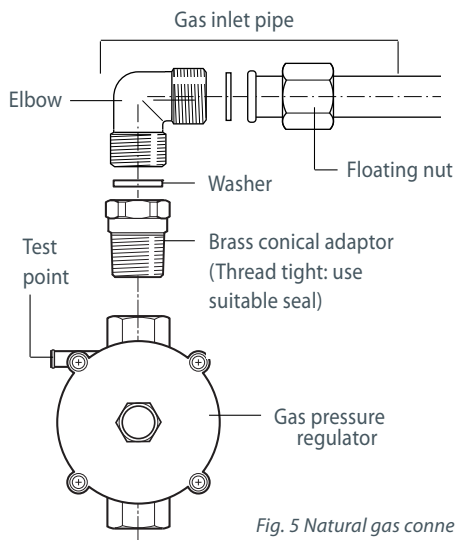

Fig. 5 Natural gas connection
- Before connecting the appliance to the gas main, mount the brass conical adaptor onto the gas inlet pipe, upon which the washer has been placed (Figs. 5 and 6).
- For Natural Gas, connect the gas supply to the gas pressure regulator which is supplied with the appliance (Fig. 5). Adjust the regulator to obtain a test point pressure of 1 kPa with the two semi-rapid burners operating at the maximum.